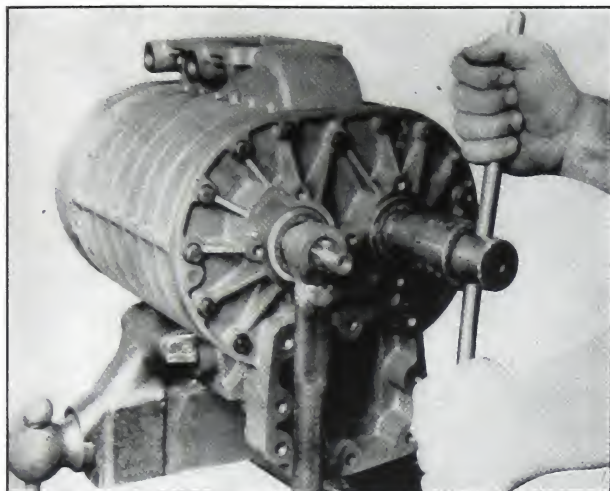

Fig. 10-4. Removing locknuts
9. Remove the locknut and lockwasher from the idler rotor shaft end using the shaft locking wrench to lock the rotors. See Fig. 10-4.